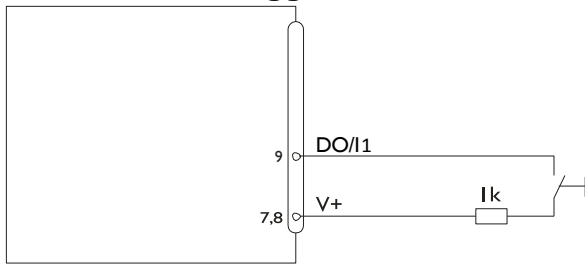

Fig. 19: Connection for external triggering
The PLDM1010(H) and PLDM1030(H) contains two electrically isolated grounds, the general ground (GND) and the analog ground (AGND). GND and AGND are connected to the housing by a RC element. Please see figure 19.